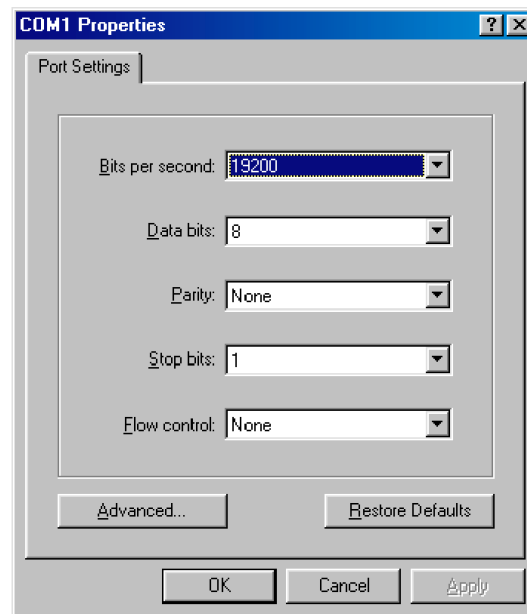

Figure 18. COM properties
- Configure the COM port settings as shown in figure 18.